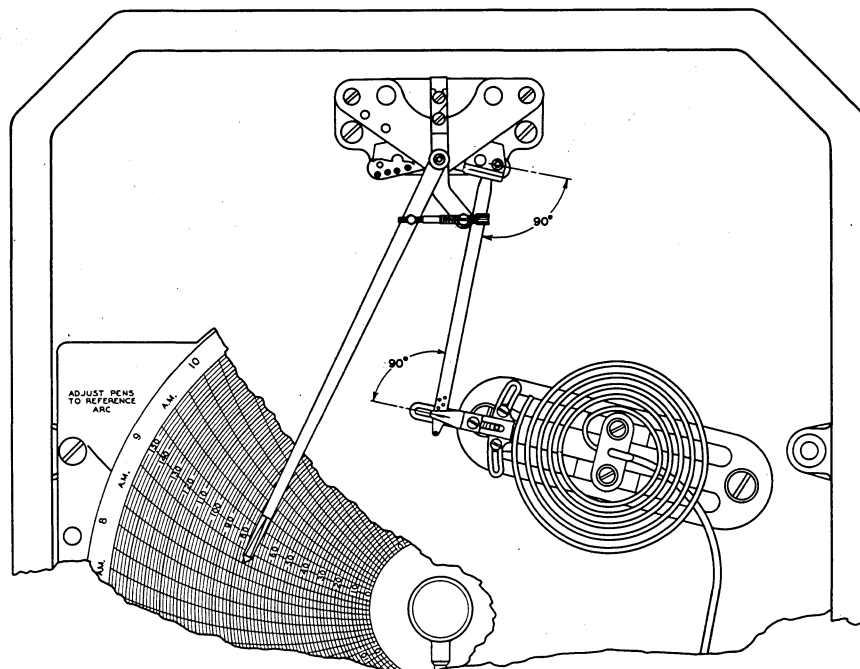

Fig. 7
4. Failure of Pen to Follow Time Line Fig. 7